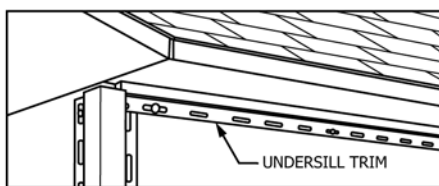
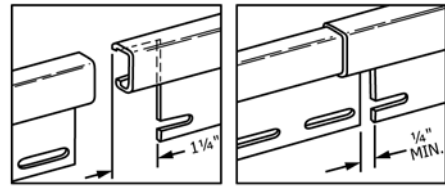
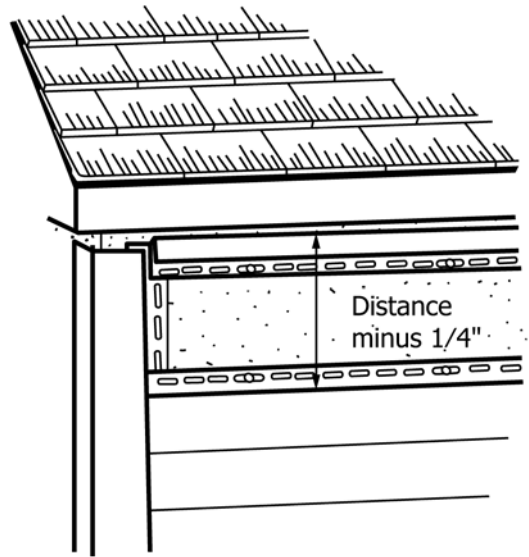

FIG. 20 Undersill Trim at Top of Sidewall
FIG. 21 Undersill Trim Splice
FIG. 22 Determining Width of Final Siding Panel under Eave
9.3.9 The final panel under an eave is handled like the portion under a window. Nail undersill trim to the top of the sidewall (see Fig. 20), flush with the underside of the eave. If more than one length of undersill trim is needed, splice by cutting out 1 1/4 in. (31.7 mm) inch from the back and nailing the flange of one piece of trim, then inserting the second strip inside the first, leaving 1/4 in. (6.4 mm) for expansion. (See Fig. 21.) To determine the amount of the top panel to be cut off, measure from the bottom of the eave or soffit to the bottom of the preceding panel lock in several places along the full length of the panel and subtract 1/4 in. (6.4 mm). (See Fig. 22.) Cut the panels to provide this width. Punch snap-locks every 6 in. (152 mm) along the cut edge and slide it up into position.